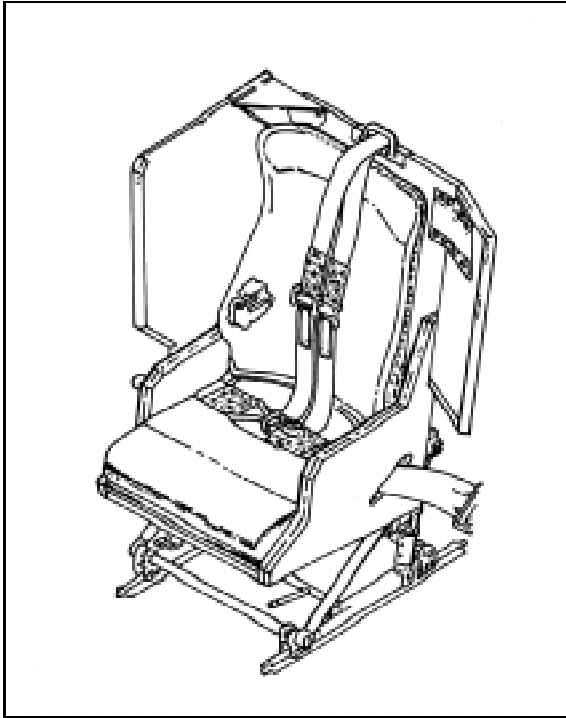
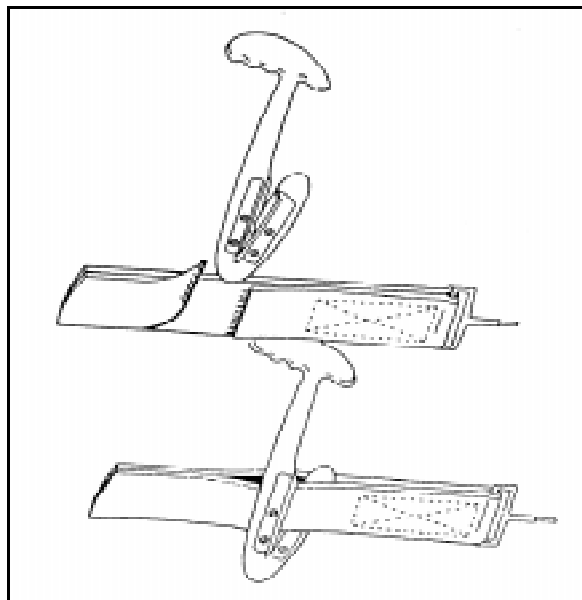

Figure 7-5. Seat belt and harness
Figure 7-7. Cutting a double harness
**7-73.** All Army aircraft have seat belts and many have shoulder harnesses. Seat belts and shoulder harnesses are constructed of strong, webbed material and are difficult to cut. Rescue personnel must be familiar with the release mechanisms of these belts and harnesses. Figures 7-5 and 7-6 show different seat belts and shoulder harnesses. Figure 7-7 shows how to cut a harness.